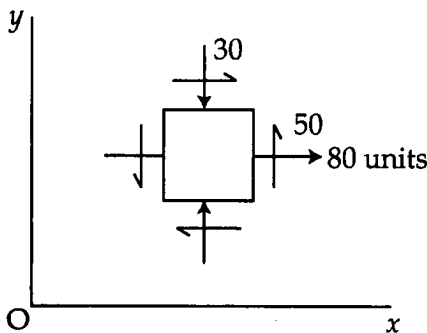

Fig. 6
8. The state of stress at a point in the body of a material is shown in Fig. 6. Determine : 14